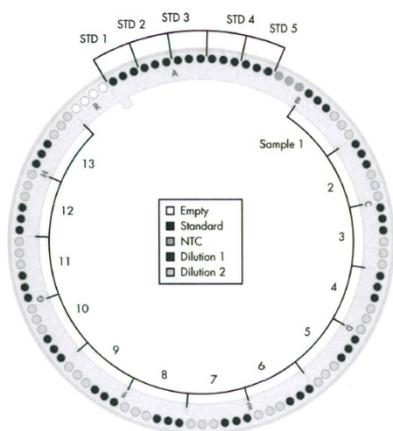
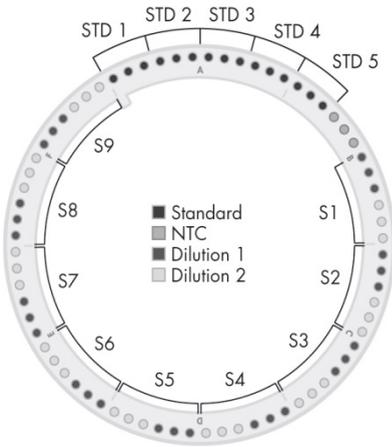

Figure 4. QIAseq Library Quant Assay Kit layout (Format R; Rotor-Disc 100).
Figure 5. QIAseq Library Quant Assay Kit layout (Format R; 72-well Rotor).
8. Add 20 μ l PCR components mix per well to three wells (see Figure 4 or Figure 5 for layout) for each sample dilution or standard.